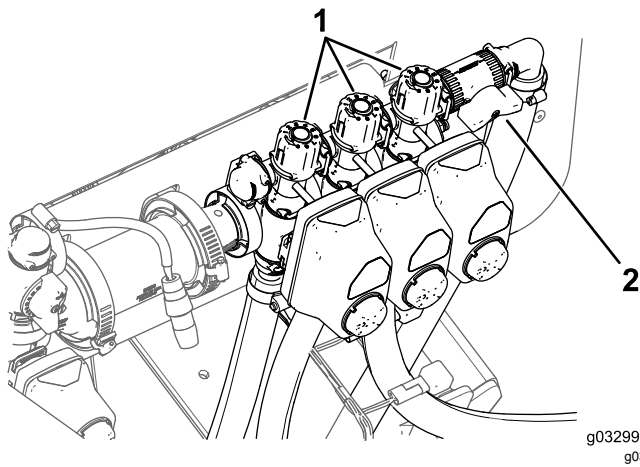

Figure 48
9. Turn off the left boom and adjust the boom-bypass knob (Figure 48) until the pressure is at the previous level.
11. Adjust the right boom-bypass knob (Figure 48) until the pressure is at the previous level.
13. Adjust the center boom-bypass knob (Figure 48) until the pressure is at the previous level.